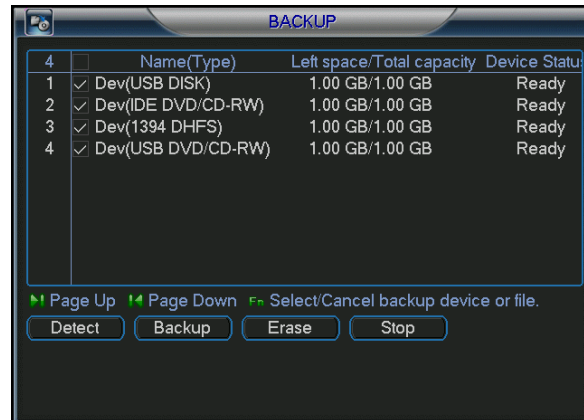

Figure 4-25
- PTZ activation: Setup PTZ movement when alarm occurs, such as go to a preset, tour or pattern when there is an alarm. Click “select” button, you can see an interface is shown as in Figure 4-25.
Click backup button, you can see an interface is shown as in Figure 4-25. Here is for you to view devices information.